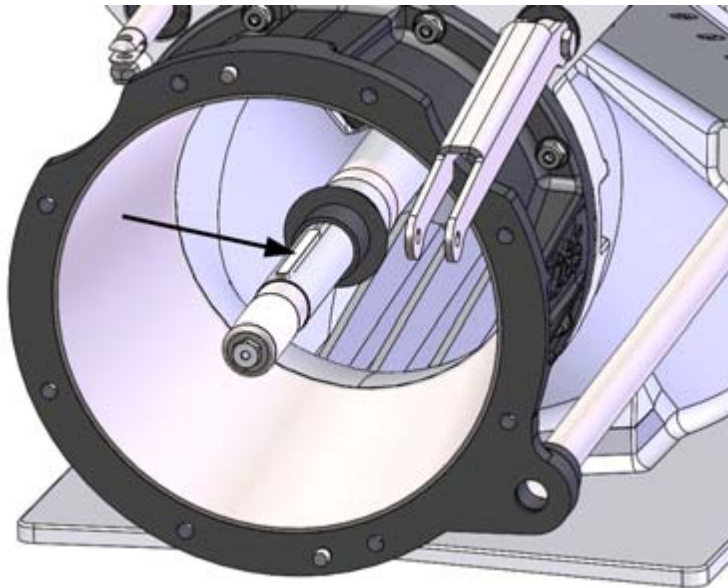

Figure 33. Wedge groove
6. When you find the right adjuster sleeve length, place the wedge in the shaft's groove (figure 33) and push the impeller on the shaft against the insulating ring.